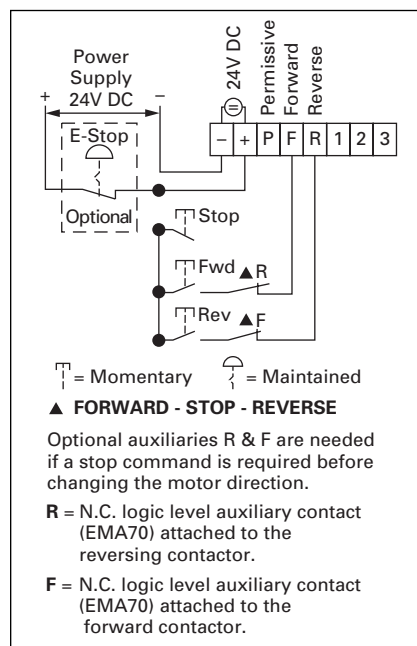

Figure 3. 3-Wire Reversing
Figure 3 illustrates the connections for 3-wire reversing control. The momentary Forward contact is wired to the Forward input (F). The momentary Reverse contact is wired to the Reverse input (R). This differs somewhat from a typical electromechanical device in that it does not require holding contacts to maintain the circuit when the momentary normally open Forward or Reverse contact is released. This is a result of the electronic logic being used to operate the coils of the device.